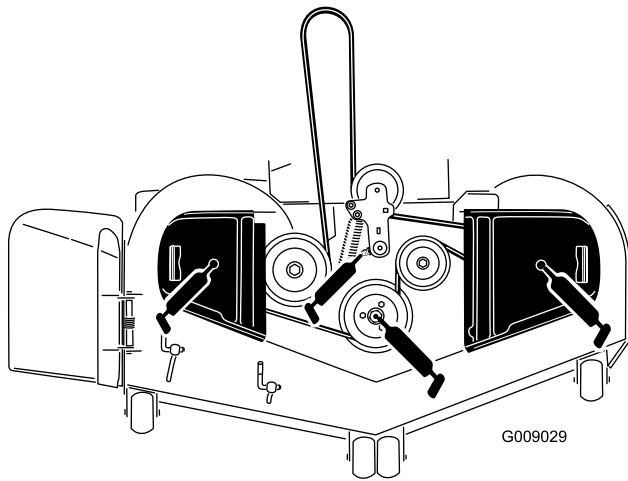

Figure 43
3. Grease the mower deck idler pulley pivot until grease come out the bottom (Figure 43).
4. Grease the 3 spindle bearings until grease come out the lower seals (Figure 43).